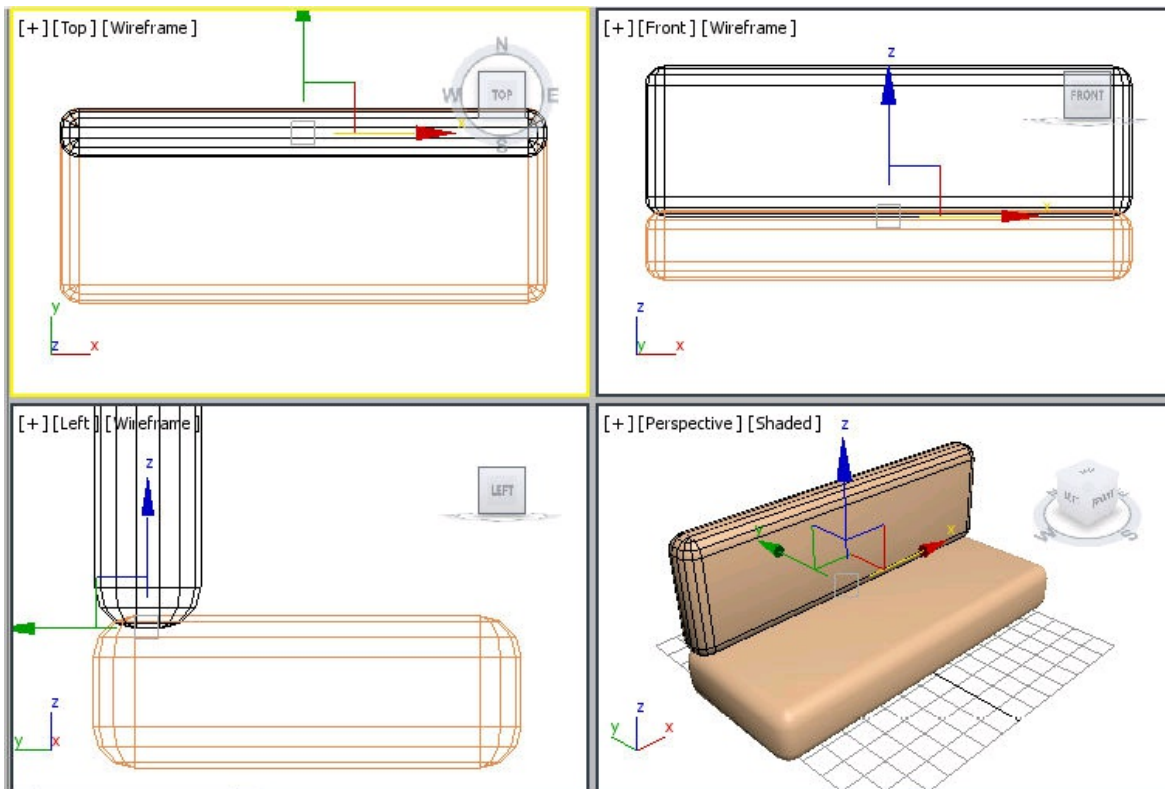

Figure 3-21 Alignment of back support with seat support
8. Choose the **Select and Move** tool, select *back support* if it is not selected, and move it in viewports to align it with *seat support*, as shown in Figure 3-21.